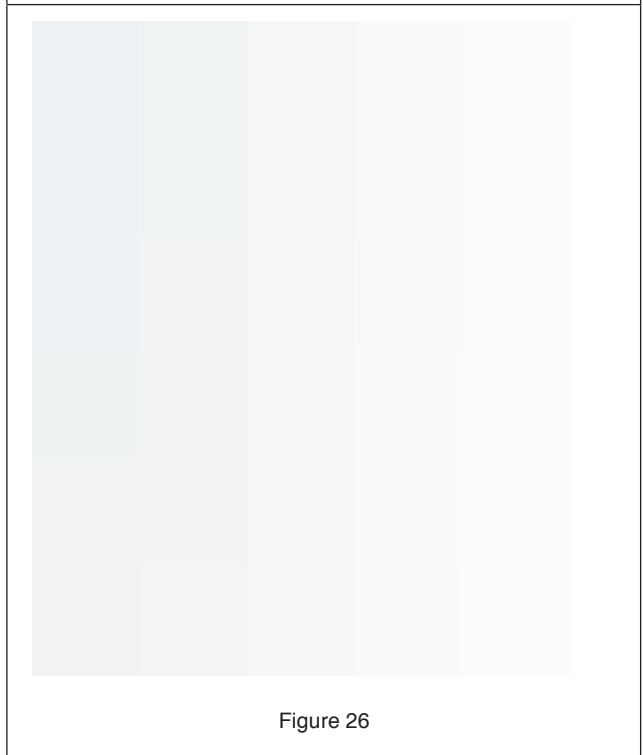

Figure 26
2. Attach the handle of the door through the bolt hole ① and make sure that the handle makes contact to the door surface closely. See Figure 26.
3. Attach the handle by rotating the handle screw ③ clockwise until it stops to the end, gently shake the handle to ensure it has been attached securely.
4. Put the screw hole cap ④ on the handle screw hole to complete this installation.